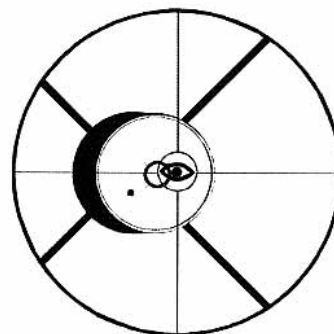

Fig. C-5B
- ③ Rotate the secondary until your eye reflected in the diagonal as it is centered in the crosshair. With the reflection of your eye in centered in the crosshair, slightly tighten the knurled nut. Refer to the Fig.C-5B.